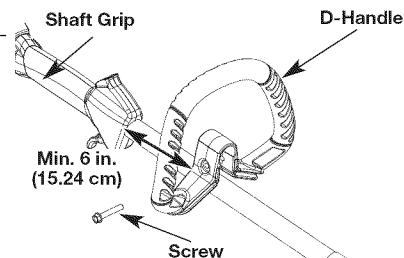
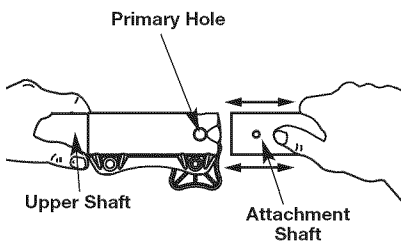

Fig. 2
Fig. 4
1. Loosen the screws on the D-handle (Fig. 2).
**WARNING:** Before operating this unit, be sure that the release button is fully snapped into the primary hole (Fig. 2), and that the knob (Fig. 4) is securely tightened.
2. While firmly holding the trimmer attachment or other attachment, push it straight into the Convertible™ coupler until the release button snaps firmly into the primary hole (Fig. 4).
3. While firmly holding the upper shaft, pull the trimmer attachment or other attachment straight out of the Convertible™ coupler (Fig. 4).